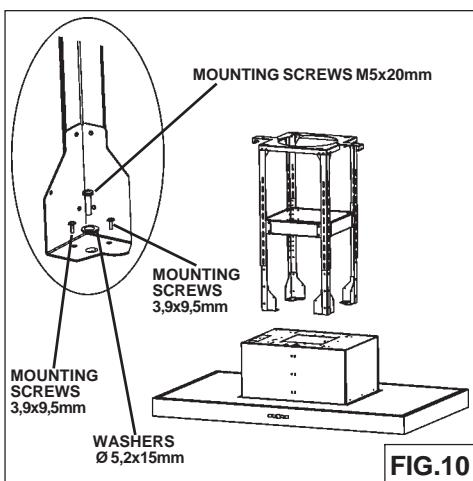

FIG.10
1. Adjust the overall height of the support frame. Loosen and re-tighten the 4 screws in the **height adjustment slots** as necessary. Insert 8 screws (3.9x9.5mm), 4 screws (M5x20mm) and 4 washers (D.5.2x15mm) located in the Hardware Package (Fig. 10).